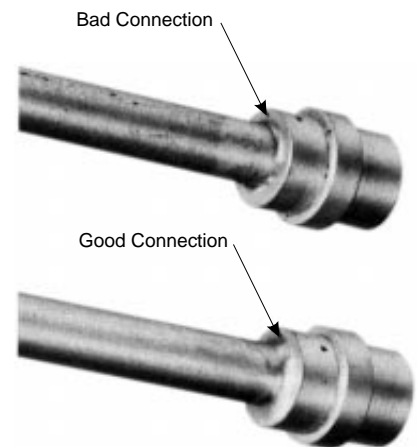

Figure 3. Examples of Good and Bad Solder Connections
i. Inspect the connection to ensure that there are no solder gaps (Figure 3) and that the sleeve assembly is square with the cable.